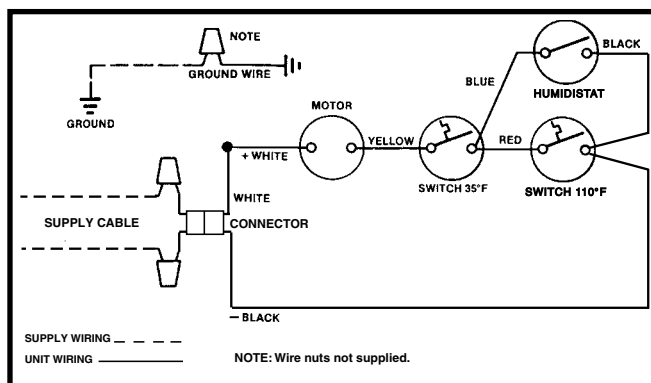

Figure 7. VentilAire™ IV Wiring Diagram
8. Refer to the wiring diagram. See Figure 7 (page 4).